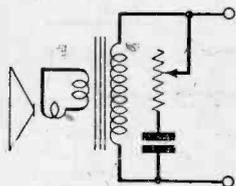

Fig. 5(d).—A method of tone control which is NOT recommended for connection at the speaker.
**T**HE usual form of tone control which uses a variable resistor, and is shown in Fig. 5(d), is not of great use in the speaker circuit. This is because the relatively large power that may be developed in the A.F. circuit across the variable resistor is liable to cause arcing between the slider and the track, particularly when the slider is very nearly at the minimum resistance position.